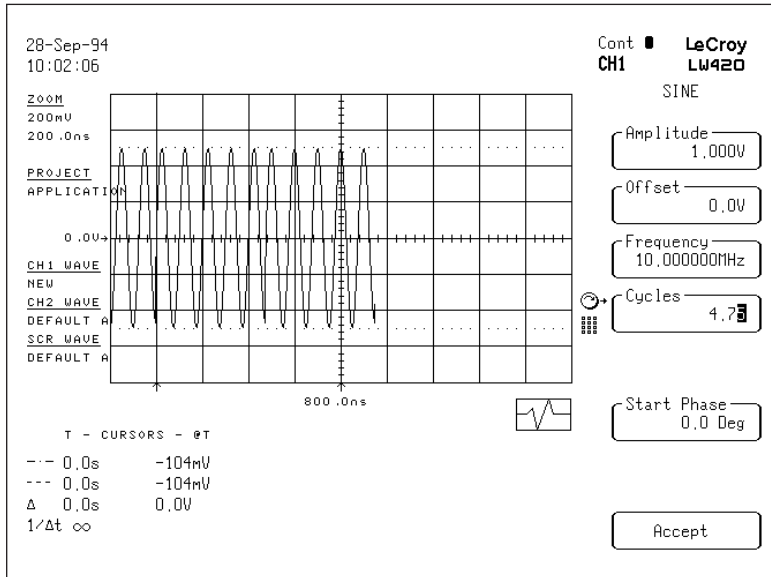

Figure 2.2 The sine wave
7. Verify that all menu selections are as shown in figure 2.2. Make any necessary changes.